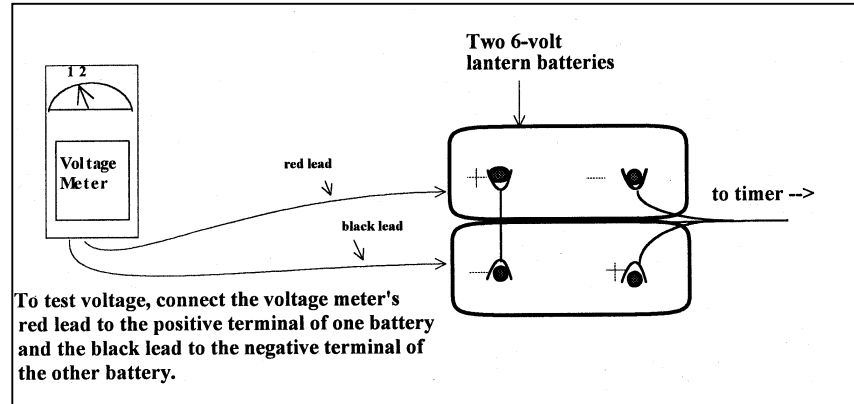

Figure 4-6. Paragon Timer Battery Configuration.
##### To change the 6 volt batteries (Figure 4-6):
- Measure the voltage of the new batteries as shown in Figure 4-6. The measurement should be approximately 12 volts.